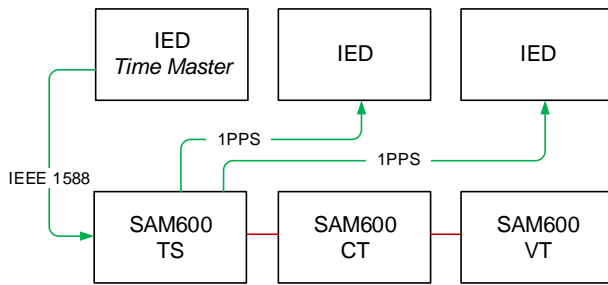

Figure 5.PPS synchronization
- **Synchronization by 1PPS** – A PPS from an external clock is used to synchronize a SAM600 system (see Figure 5) through SAM600-TS with an accuracy of 1µs in order to ensure synchronous sampling. The SAM600-TS module replicates the 1PPS information to the 1PPS outputs and synchronizes the SAM600 system internally through IEEE 1588 against the 1PPS input.